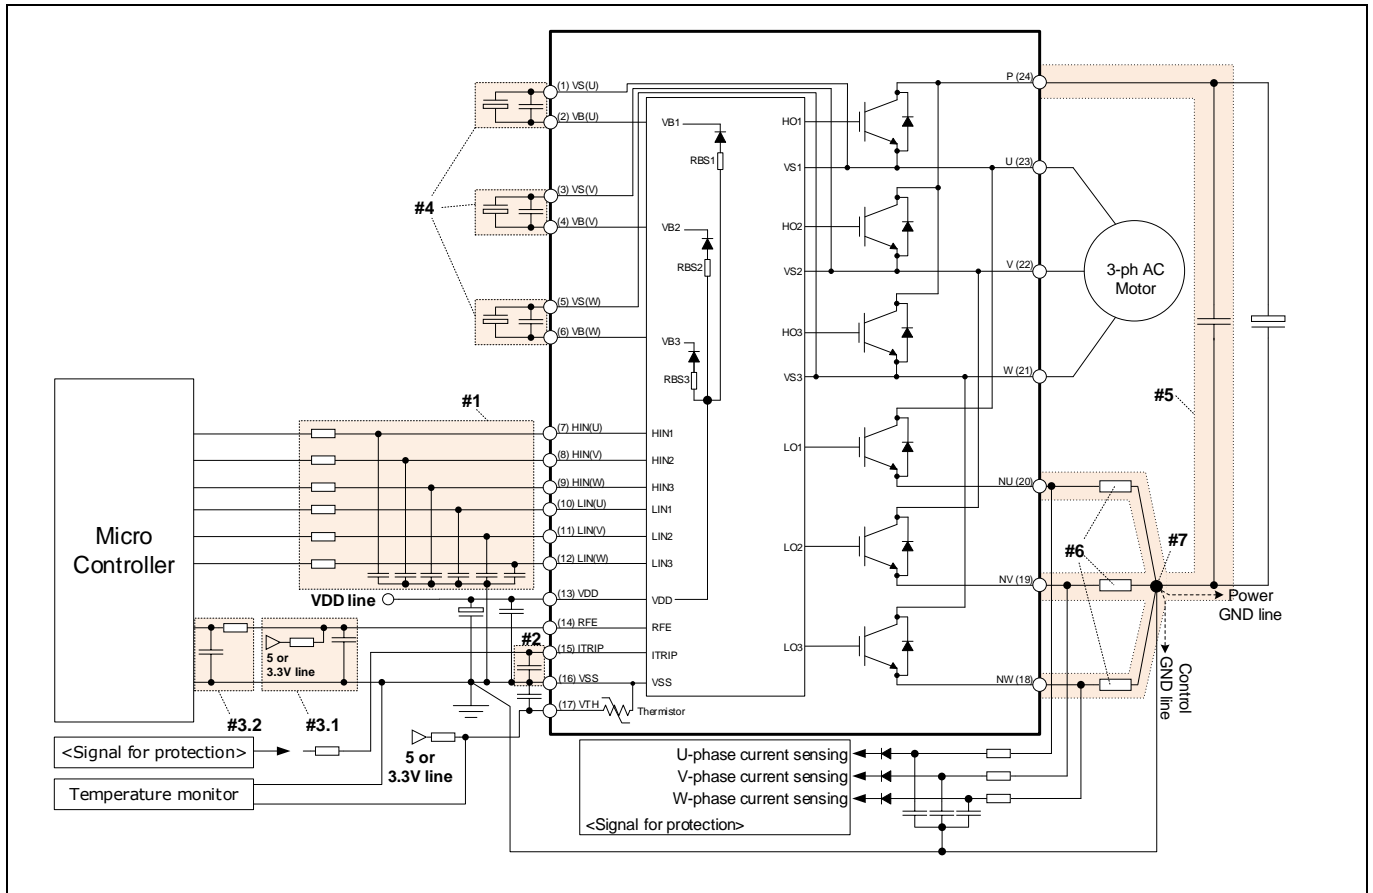

Figure 15 Application circuit example
- The current sensing shunt resistor should be connected between the N pin (emitter of low-side IGBT) and the power ground to detect short-circuit current (refer to Figure 15). An RC filter should be connected between the shunt resistor and the ITRIP pin to eliminate noise.
Figure 15 shows a typical application circuit of IM818 for interface schematic with control signals connected directly to a micro-controller.